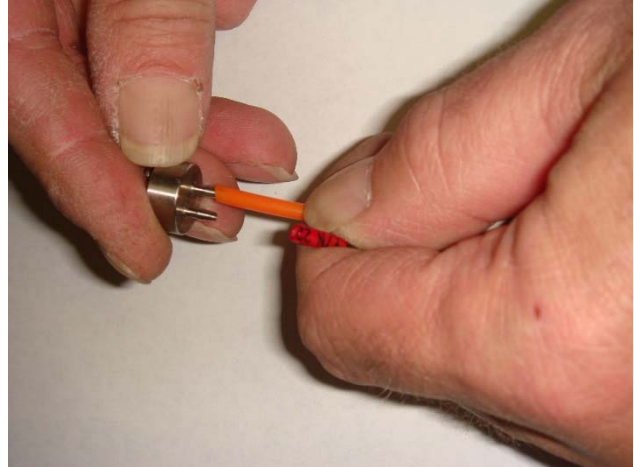

Fig. 5
7. Reconnect all tubing to barbs by pushing tubing onto barbs until seated. (Fig. 5)